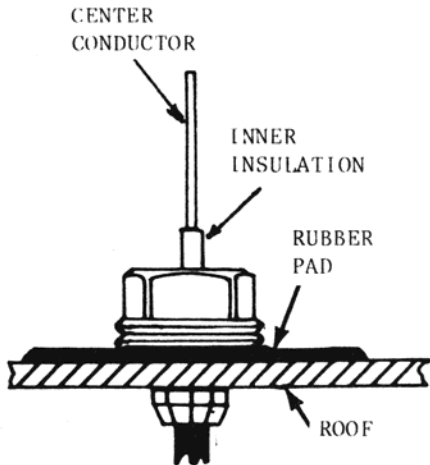

FIGURE 12
10. Place the rubber pad over the clamping assembly and flat against the mounting surface. See Figure 12.